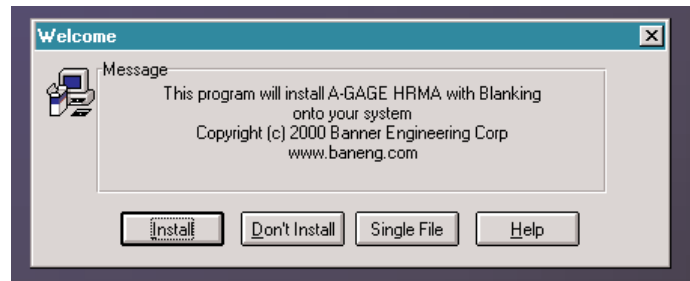

Figure 4-1. MINI-ARRAY software installation: Welcome screen
2. A Welcome dialog box will appear (Figure 4-1); select **Install**.